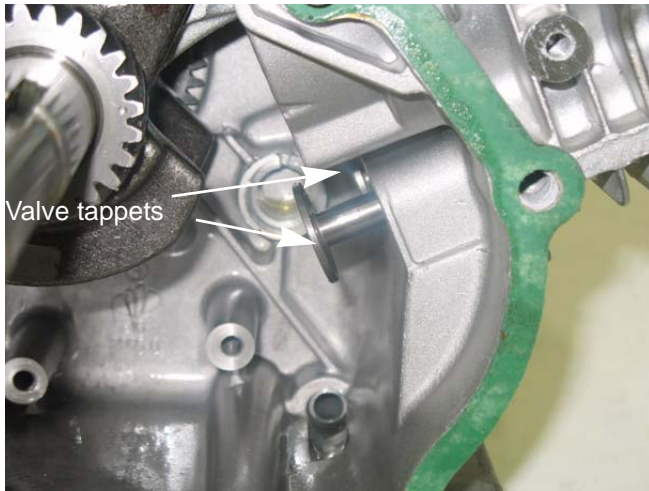

Figure 10.3
13. Remove the valve tappets. See Figure 10.3.